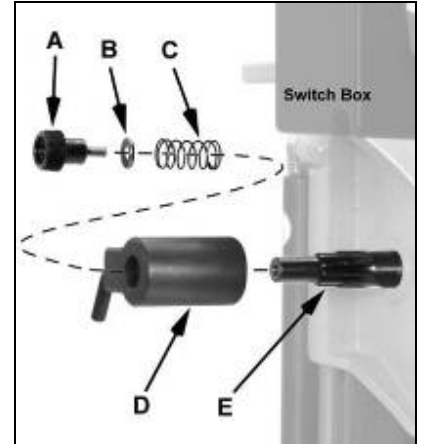

Fig 5
To change place remove knob (A, Fig 5), washer (B) and spring (C).